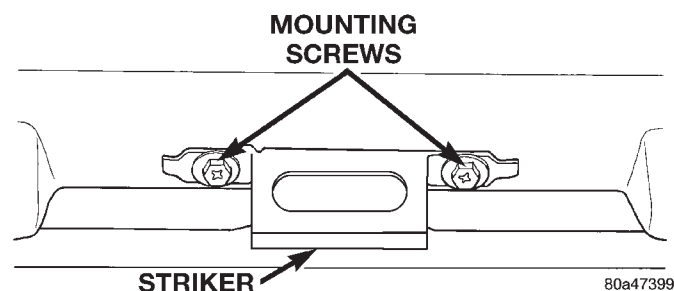

Fig. 18 Glove Box Latch Striker Remove/Install
(1) Remove the glove box from the instrument panel. See Glove Box in this group for the procedures.
(2) Remove the two screws that secure the glove box latch striker to the grab handle bezel at the top of the glove box opening (Fig. 18).